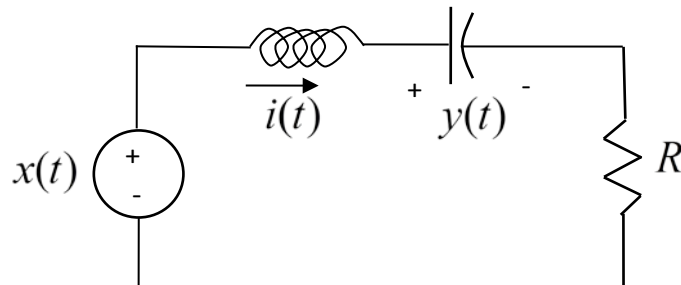

Figure 7. Second order circuit for Part C
- 1) Construct the second order circuit shown in Figure 7. For this circuit, use your variable resistor for R , use a $0.01 \mu\text{f}$ capacitor, and a 33 mH inductor.